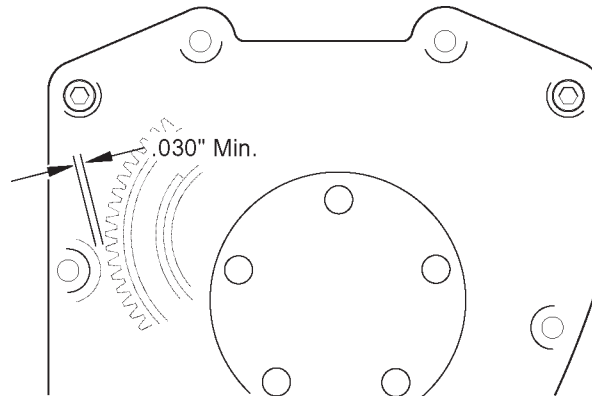

Figure 1
- T- Press a small amount of kneadable clay or putty on the cam cover mounting boss shown. **See Figure 1** below. Carefully hold the cover and cover gasket in the position against the crankcase. Install mounting bolts (4) near the corners of the cover finger tight. Push or tap the cam cover towards the engine.